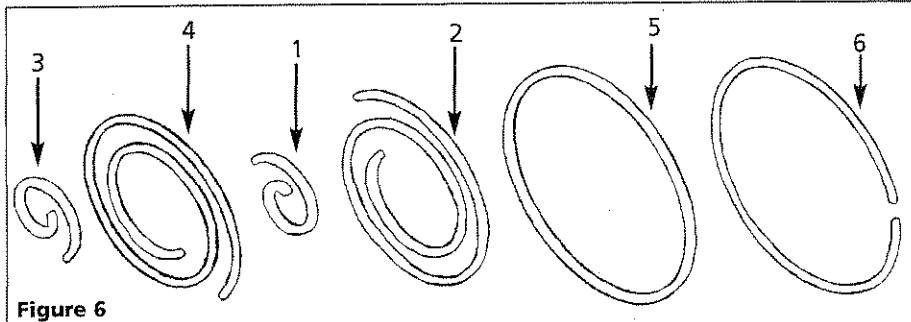

Figure 6
2. Confirm if the following parts are included (See Figure 6).